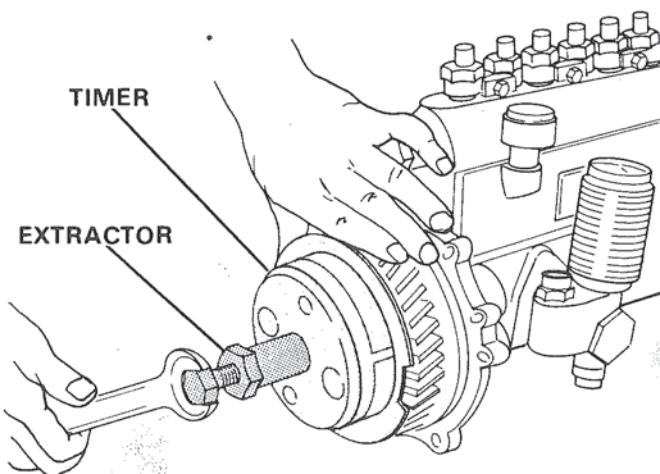

Figure 22. Removing Timer.
- B. Remove timer assembly using extractor, Special Tool No. MH061097. Figure 22.
16. Remove fuel pump by removing three (3) nuts that hold pump to injection pump.